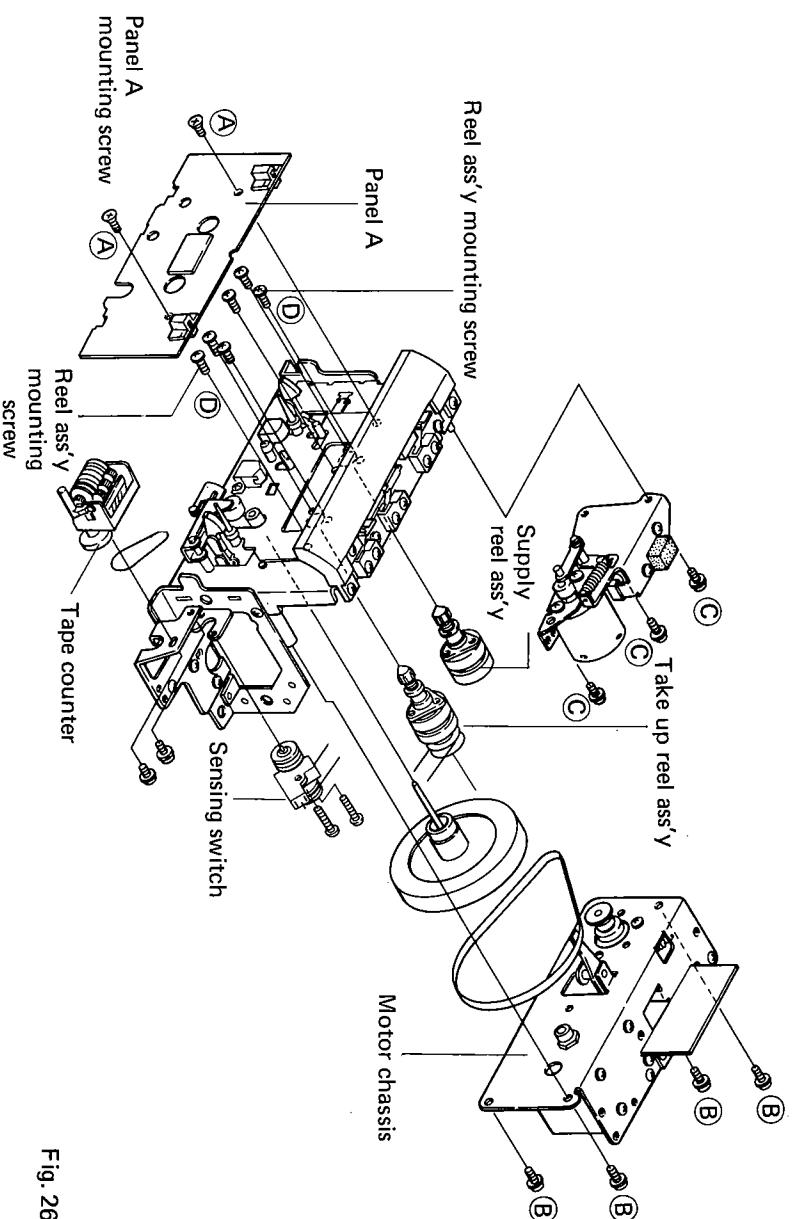

Fig. 26
10.4 REEL HUB TORQUE (Photo 5, 6, Fig. 26)
To replace the take up and supply reel hubs, as shown in Fig. 26, take out screws A and remove panel A. Then remove screws B and C, and finally screws D.